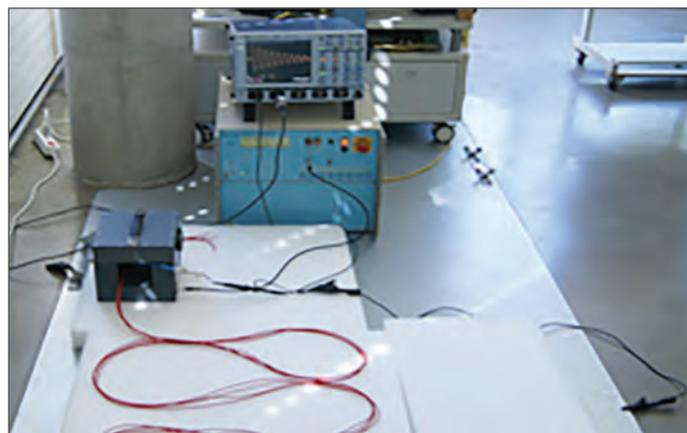

Figure 8. Test setup with 15 m cable bundle.
- In cases 1 and 3 (Figure 8), the cable bundle's ends were open circuit (corresponding to high impedance to ground), whereas in cases 2 and 4, a short circuit to ground has been set (corresponding to low impedance to ground).